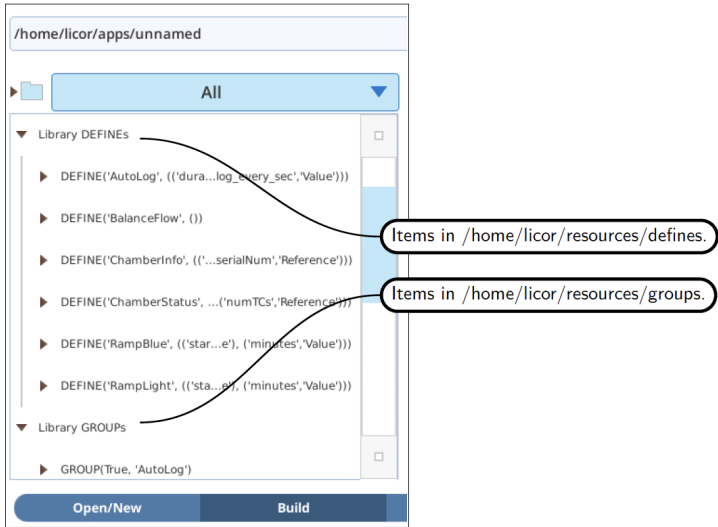

Figure 6-19. These items come from the file system, so you can add your own and make them available here (after a restart).
- `/home/licor/resources/defines`. These are BPs that contain one **DEFINE**. These files show up in the "Library Subroutines" portion of the source list (*Figure 6-19* on the next page).
- `/home/licor/resources/groups`. These are BPs whose first step is a **GROUP**. Files here show up in the **Library Groups** portion of the source list (Figure 6-19 below).